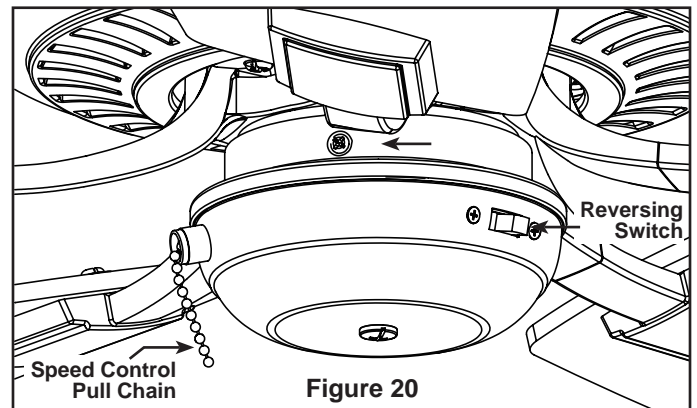

Figure 20
3. If airflow is desired in the opposite direction, turn the fan off and wait for the blades to stop turning. Then slide the reverse switch to the opposite position and turn fan on again. Your fan model is equipped with a 4-position, 3-speed, pull chain switch. (Figure 20)